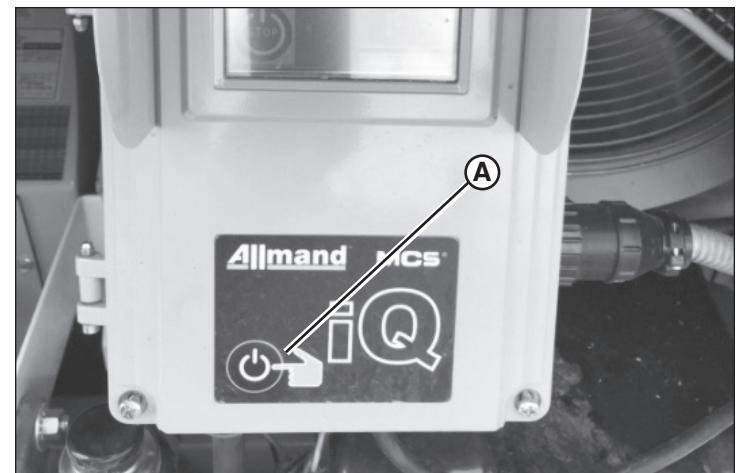

Figure 30
- Press and hold START / STOP on the control module (A, Figure 30).